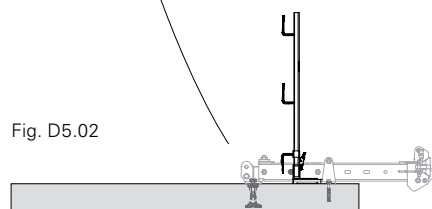

Fig. D5.02
2. Only Version 1: insert Climbing Rails (2) into the top Slab Shoe (10a) using the Guide-In Tool and close the guiding skids. Deactivate the climbing pawl.
3. Insert climbing device (90) and engage with bolt of the middle Slab Shoe (10b).
4. Fold up Foldable Covers (40) and secure them by shifting laterally or by means of wiring.
6. Raise the climbing enclosure from the middle Slab Shoe with the Climbing Device LPS 30 kN (90) in 50 cm steps. (Fig. D5.02 + D5.02a)
7. Only Version 2: when the Climbing Rail (2) has reached the top Slab Shoe (10a):